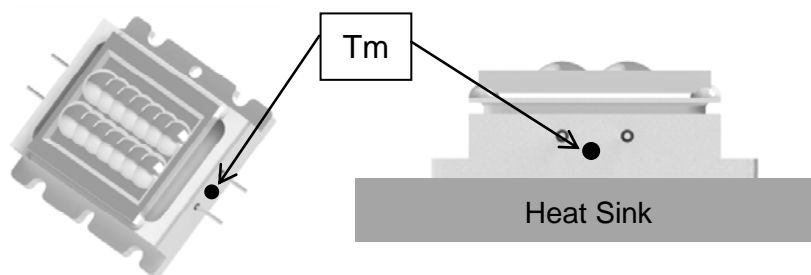

Fig.1 Schematic diagram of measurement system
*2) Refer to Fig.1
(3) Initial Electrical/Optical Characteristics